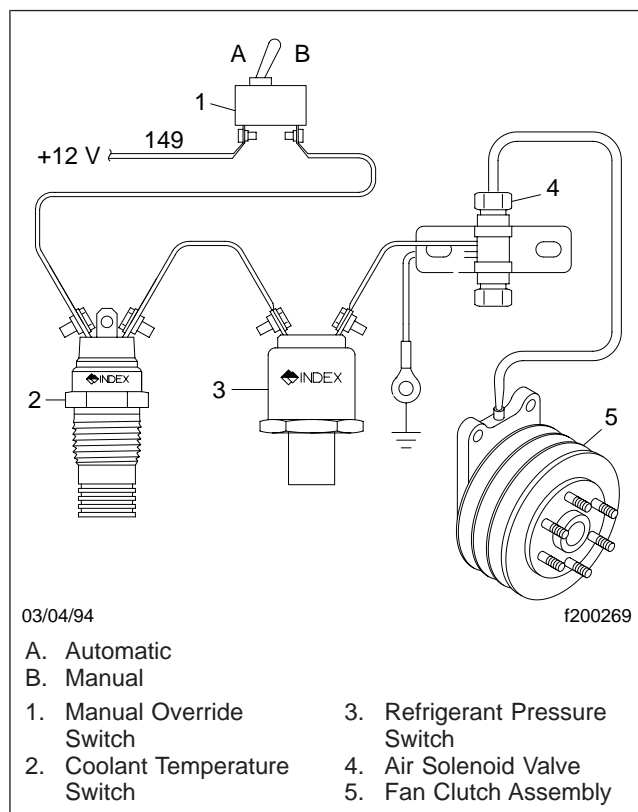
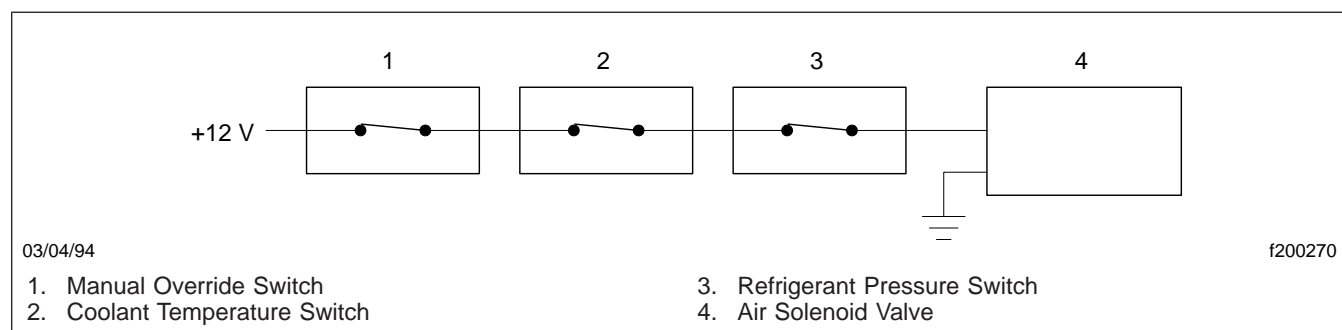

Fig. 3, Fan Control System, Normally Closed (NC)
Fig. 4, Normally Closed (NC) Electrical Schematic
Troubleshooting a Normally Closed (NC) Fan Control System \(See Fig. 3 and Fig. 4\)